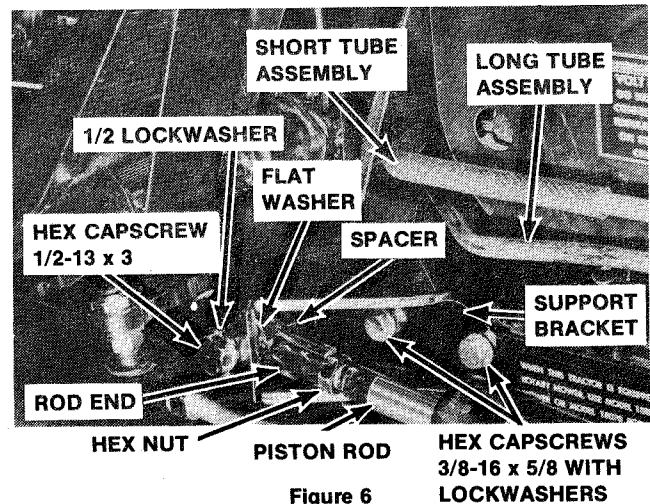

Figure 6
8. Install support bracket to tractor frame, and secure with two hex head capscrews 3/8—16 x 5/8 with lockwashers 3/8. See figure 6.
9. Install hex nut 1/2—20 and rod end onto piston rod of cylinder. See figure 6.
NOTE: SPACER IS PLACED BETWEEN ROD END AND FRAME SIDE OF BRACKET. FLAT WASHER IS BETWEEN ROD END AND OUTSIDE OF BRACKET. SEE FIGURE 6.